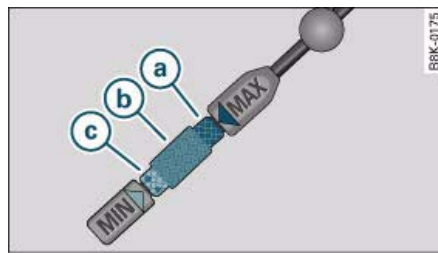

Fig. 213 Markings on oil dipstick
- Then pull the dipstick out again and check the oil level ⇒ *fig. 213*. If the oil level is too low, add more engine oil ⇒ *page 224*.